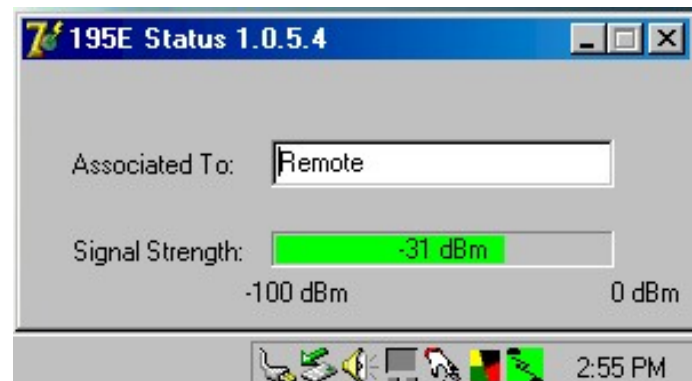

Figure 8: EtherStation Status Program
4. Connect the Model 195C/M to your computer either directly to the Ethernet card or through a Switch using a CAT-5e Ethernet cable. The Ethernet port on the 195C/M supports Auto-Negotiation so either a patch cable or crossover cable will work. Open the ESTeem Status Program. Status icons will appear in your system tray (Figure 8). When the status menu is opened from the system tray, the status window will be displayed (Figure 8) to show the Access Point MAC address and signal strength. The tray icon and Signal Strength bar will display the colors from Green, Yellow to Red on progressively poorer signal or will show Grey if roaming.